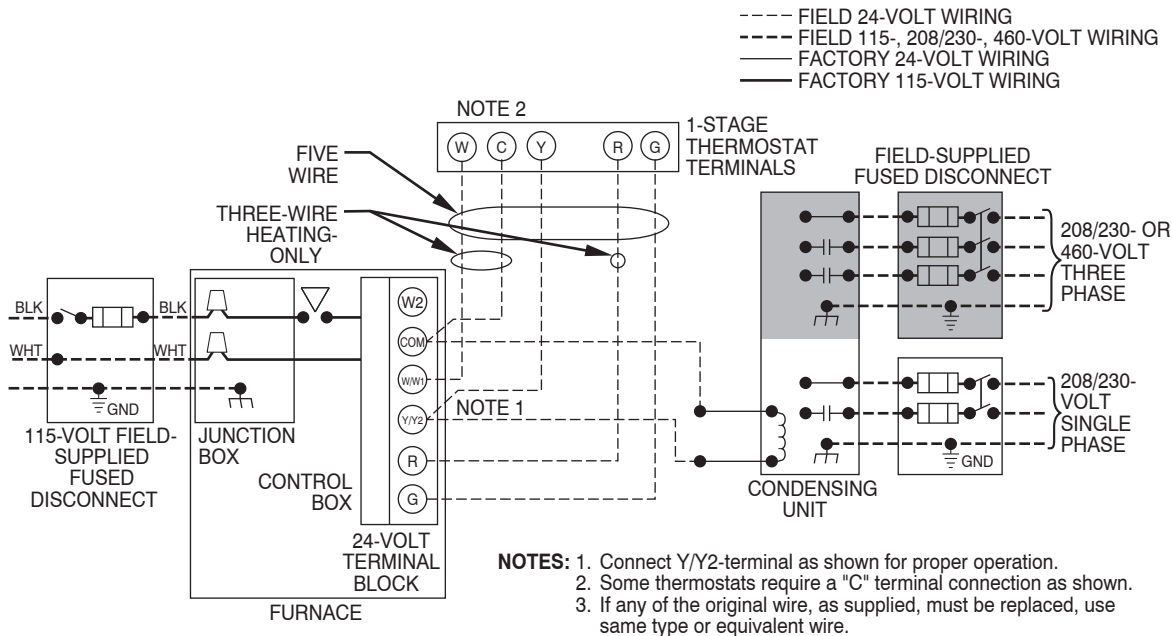

Fig. 34 - Typical Two-Stage Field Wiring Diagram
See Fig. 34 for field wiring diagram showing typical field 115-v wiring. Check all factory and field electrical connections for tightness.
7. Connect field power and neutral leads to furnace power leads as shown in Fig. 34.
6. Connect power cord power and neutral leads to furnace power leads as shown in Fig. 34.
5. Connect field power and neutral leads to furnace power leads. as shown in Fig. 34.
Make field 24-v connections at the 24-v terminal strip. (See Fig. 35.) Connect terminal Y/Y2 as shown in Fig. 34 for proper cooling operation. Use only AWG No. 18, color-coded, copper thermostat wire.